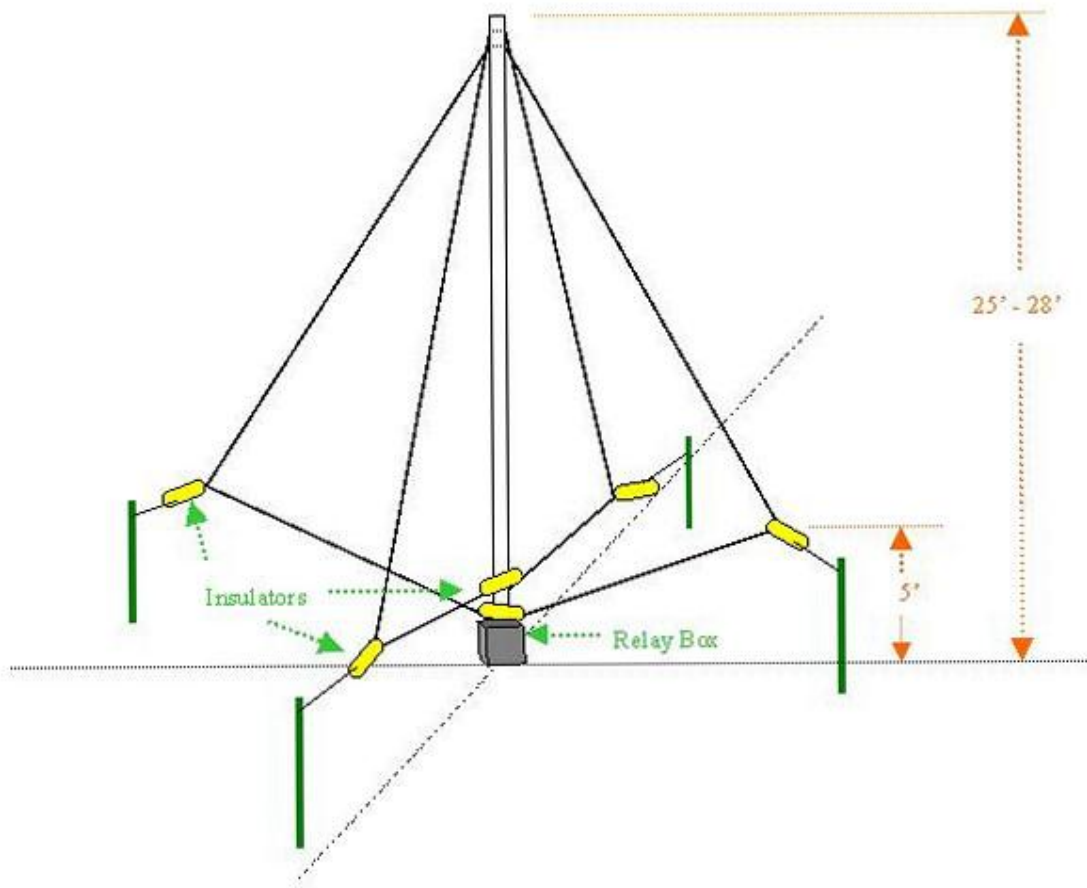

Figure 1. K9AY loop structure.
- **A ground rod.** A copper clad steel rod works well, but 3/4" copper water pipe can also be used. In dry or sandy soil it may be necessary to add a few (4) short (15' – 25') radials to achieve a good ground. These can be any kind of wire, either insulated or bare. The radials are not resonant so the exact length is not important.
- **Insulators.** 6 insulators are required for the antenna as shown in figure 1. If the antenna is to be supported from a limb, then an additional insulator will be needed at the top. Strain type ceramic or plastic insulators will work well.
- **Rope or cord.** About 150' depending on the specifics of your site, of light weight nylon rope are required. 1/8" cord works well and is more than strong enough to support the antenna. An extra guy rope from above the center of the mast to each stake (not shown in figure 1) helps during assembly and provides a lot of stability to the mast.